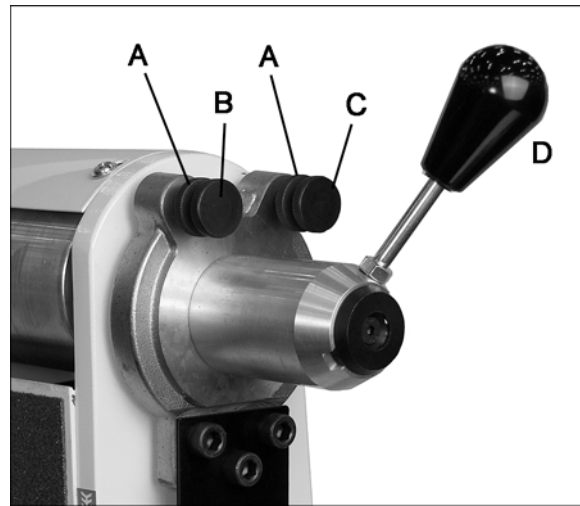

Figure 28
3. If the belt has a tendency to track left or right of center, loosen locking nuts (A, Figure 28).
4. Turn the front screw (B, Figure 28) while turning the belt by hand and observe belt tracking. Once the belt starts to move in the desired direction, stop and turn the rear screw (C) in the same manner. *NOTE: These adjustments are sensitive and should be done in small increments.*
5. Grasp the tensioning adjustment handle (D) and start the machine. Be ready to pull down on the tension adjustment handle should the belt want to run off the belt wheel.
7. Tighten lock nuts (A) when tracking adjustments are satisfactory.
3. Release belt tension using the handle (D, Figure 28), and slide belt off the wheels.